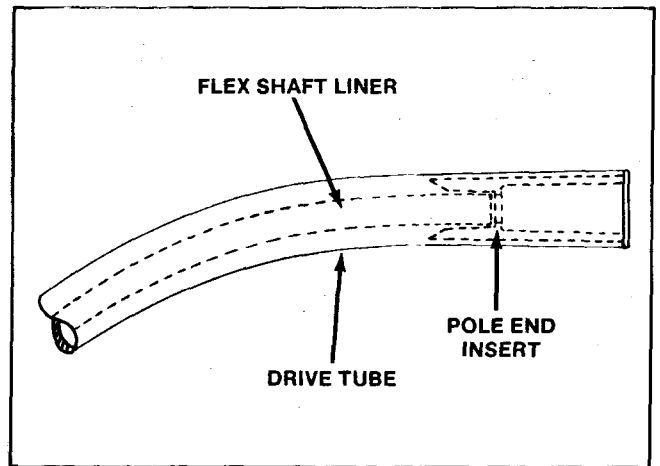

Figure 109
3. Insert the flex shaft liner into the top of the drive tube with the corrugated casing material nearer the top of the drive tube. Using the 5/8" diameter hose that was used earlier, push the liner into the drive tube until it bottoms in the pole end insert. See Fig. 109.